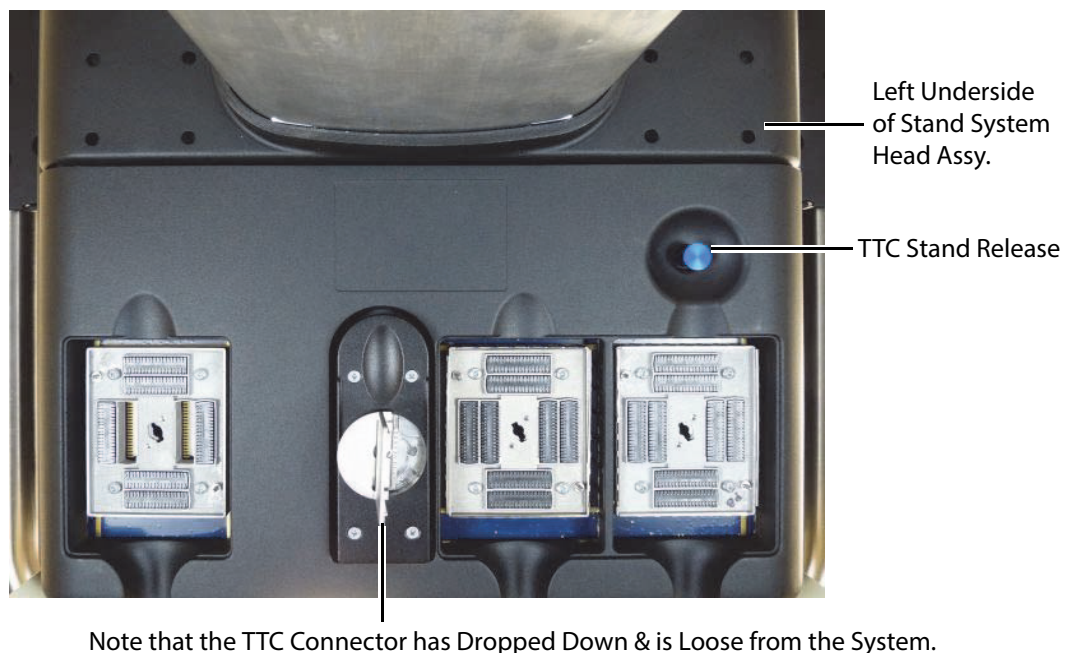

Figure 6.16 TTC Stand Release
- 2 When loose, pull the latch handle down and the connector should drop down several inches. The TTC is free from the System. Refer to Figure 6.16 on page 46.